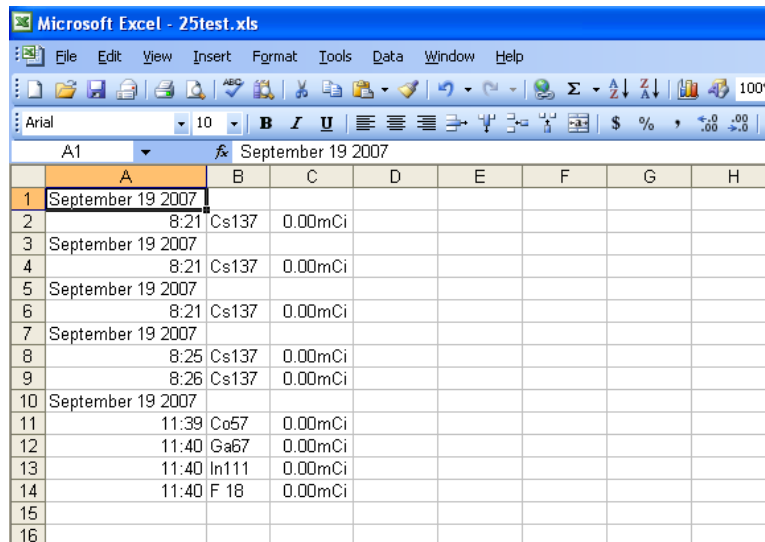

Figure 26
4. Click the **Finish** button. The spreadsheet will appear as shown in Figure 26.